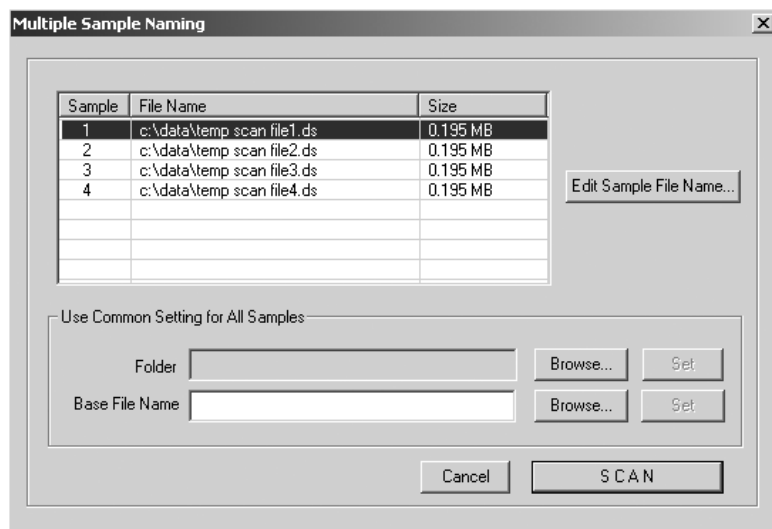

Figure 12-6. The Multiple Sample Naming window.
- In the Scanner Control window, click the **Scan** button. The Multiple Sample Naming window appears (figure 12-6). Default file names appear for each sample.
3. In the Scanner Control window, click the **Scan** button. The Multiple Sample Naming window appears (figure 12-6). Default file names appear for each sample.